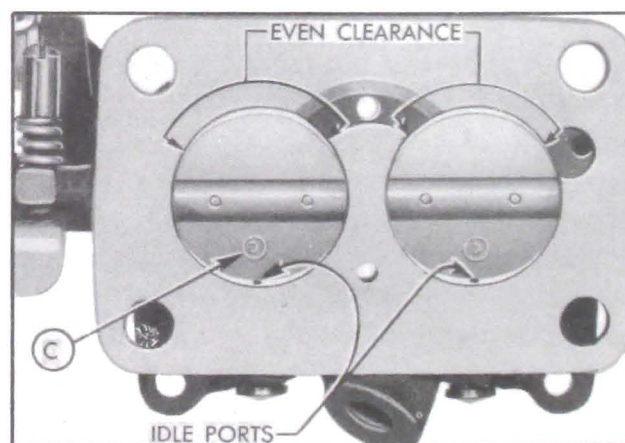

Figure 3-33—Installation of Throttle Valves
4. Install both throttle valves on shaft, using *new screws*. The small "c" in circle on valves must be toward idle ports and toward lower or manifold side of body flange. See figure 3-33. Back off throttle lever adjustment screw, fully close and center both valves in barrels of body flange, then hold valves firmly while tightening screws.
tain they are centered in barrels. See figure 3-33. Support valve screw heads on suitable steel block and lightly stake opposite ends of screws.